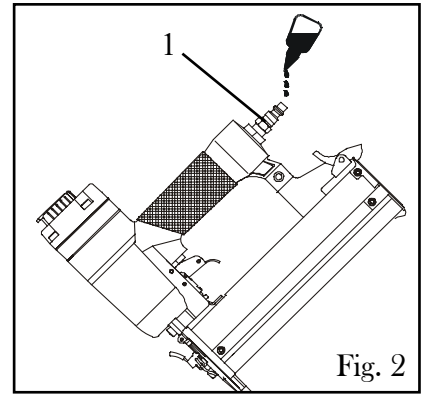

Fig. 2
2. Turn the tool so the air inlet is facing up. Place 2 drops of oil into the air inlet (Fig. 2).
1. Determine if the tool needs oil and, if necessary, place two drops of oil in the air inlet (Fig. 2 - 1) as outlined above in the Lubrication section.